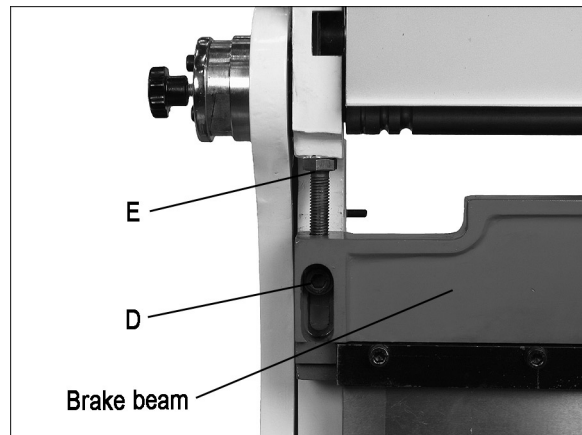

Figure 6
1. Slightly loosen locking screws (D, Figure 6) using an 8mm hex key.
2. Turn brake beam adjusting screws (E, Figure 6) using a 19mm wrench, until test bends reflect a 90° bend at both ends of the brake.
3. Re-tighten locking screws (D, Figure 6).